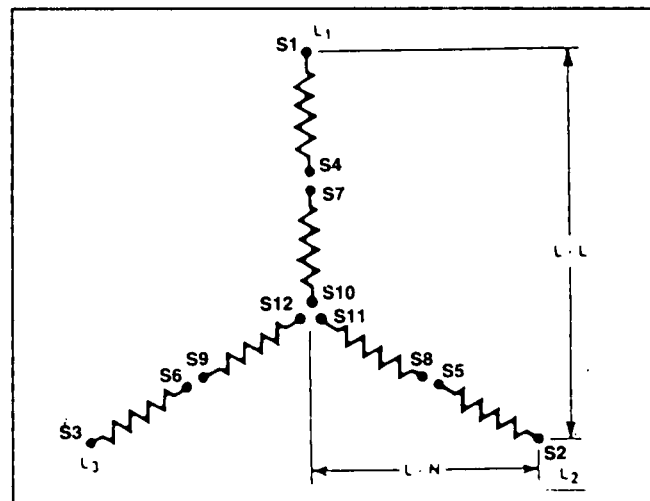

Figure 4. Series Wye (High Wye) Stator Connections
Figure 4 shows a "High Wye" or "Series Wye" stator connection system. The stator has six (6) windings, with twelve (12) leads brought out into the lower panel. The following CHART indicates how the twelve leads are connected to form output feeder lines L1, L2, L3 and "Neutral".